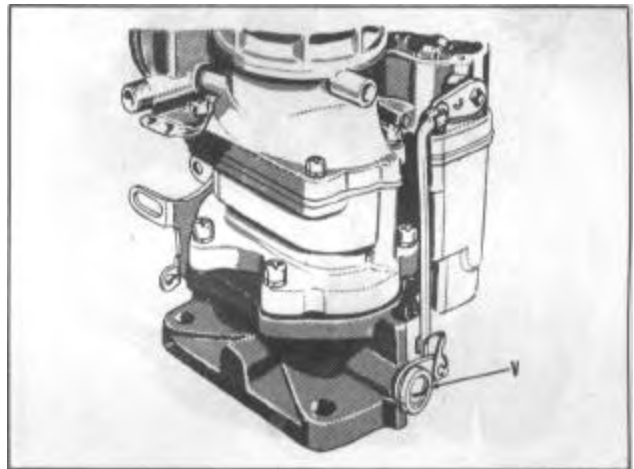

FIGURE 82
18. Install the throttle shaft lever, washer and screw at (V), Figure 82. Install throttle connector rod and retainer clips.